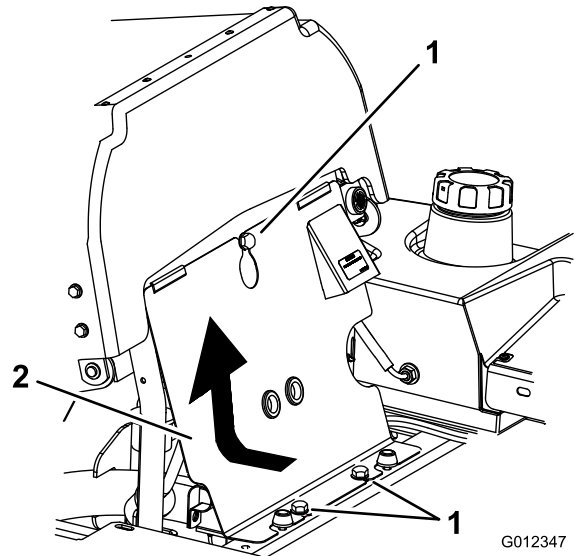

Figure 44
1. Tilt the seat forward, loosen the bolts and remove the front engine panel (Figure 44).